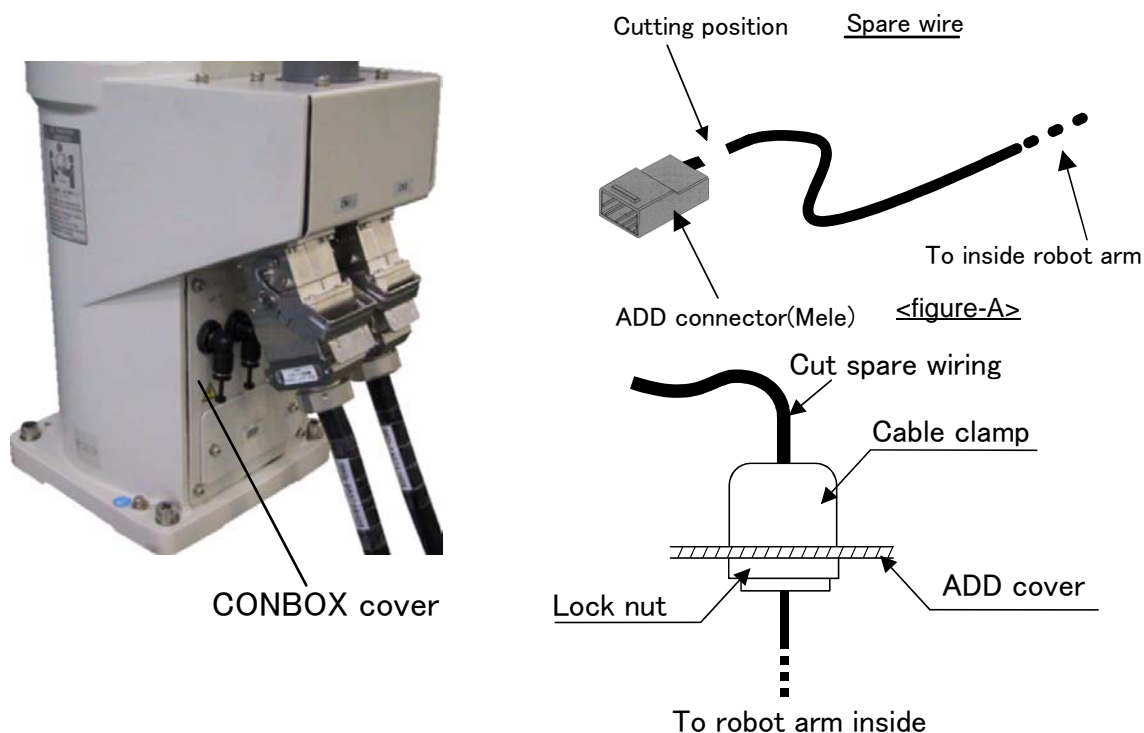

Fig.2-10 : Pull out spare wiring(Base area)
- 5) Cut spare wiring near the connector (from the connector end to the about 10-20mm. Refer to figure-A in Fig. 2-10)